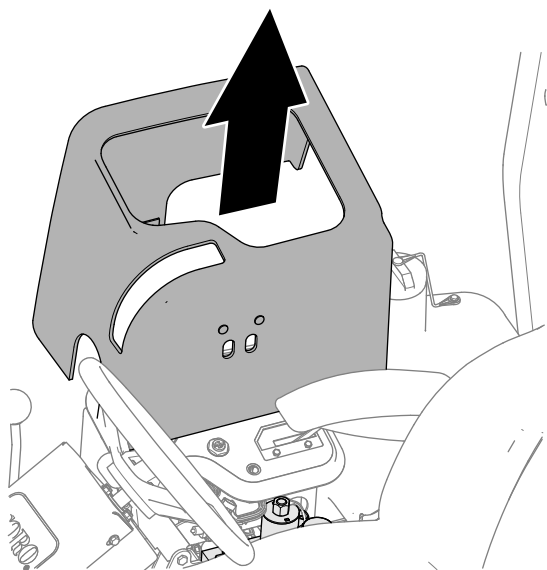

Figure 93
3. Lift the magnetically mounted console cover (Figure 93) to expose the mower manifold.